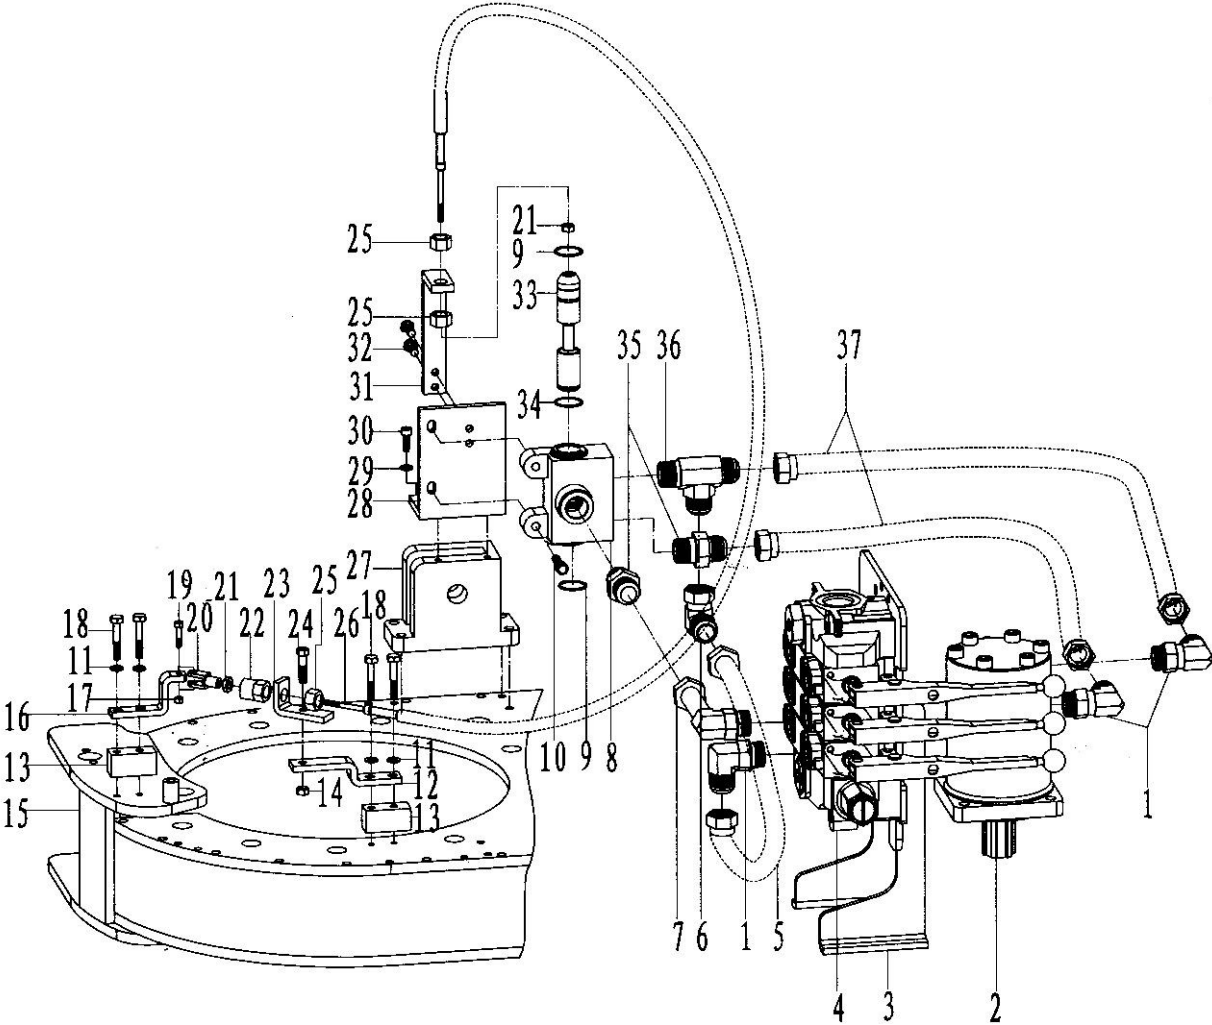

Fig.31
13. Soft shaft door control device (Fig31, Table28)
- Soft shaft door control device (Fig31, Table28)